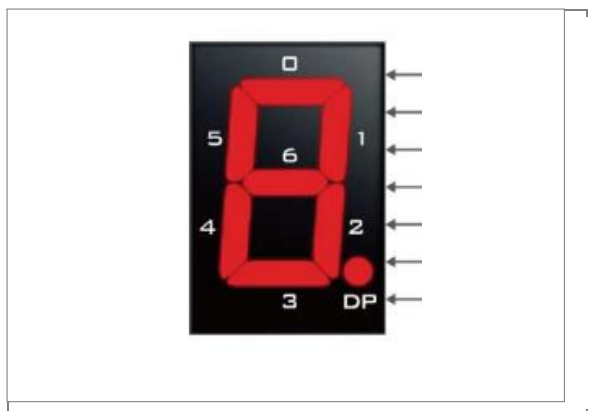

Figure 4.8.1: DE2-115, 7 segment display
- The segments of the 7 segment display can be seen in Figure 4.8.1.